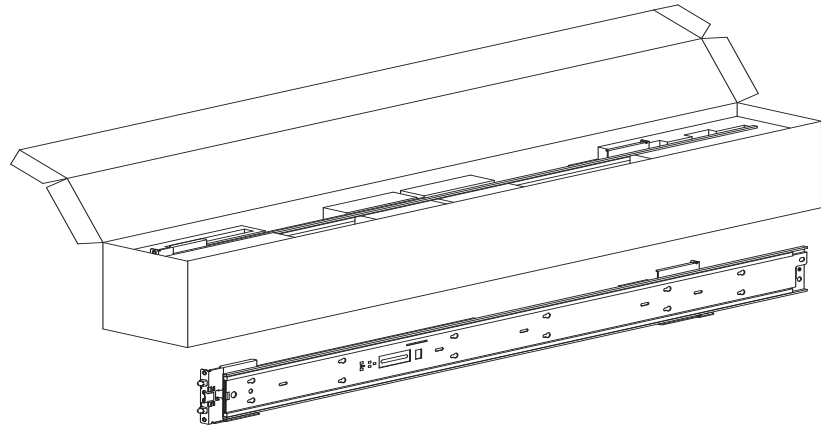

Figure 25 Removing a rail kit from the packaging box
1. Remove a rail kit from the packaging box and keep it as shown in Figure 25 below.